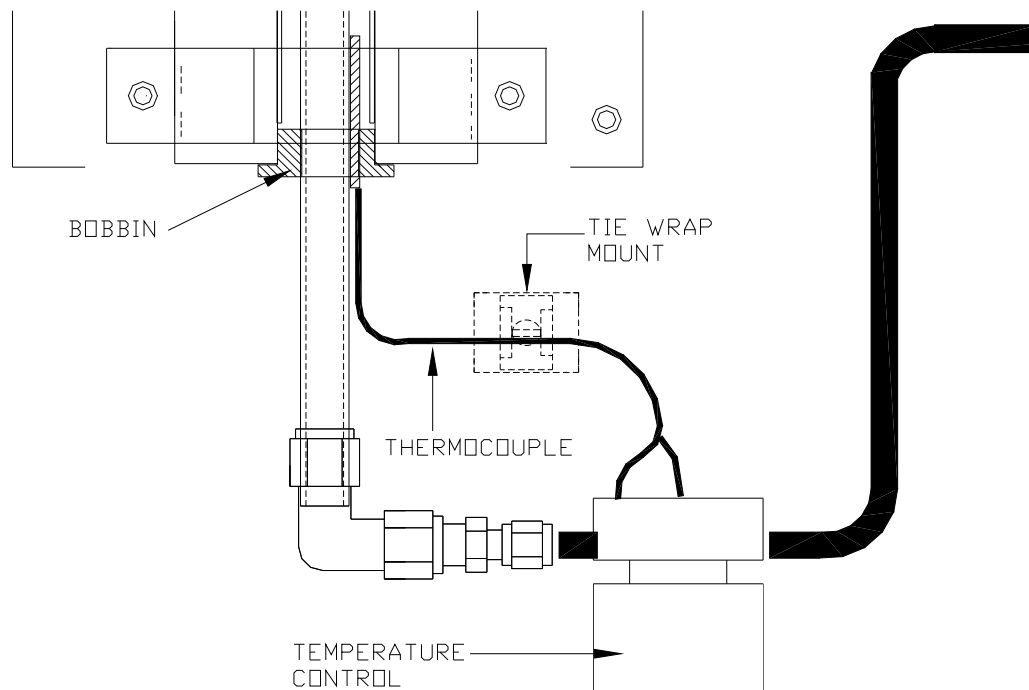

Figure 2-7. Tie-Wrap Hold-Down Location
15. Clean the chassis where the Tie-Wrap Hold-Down will be placed (alcohol is recommended), and place the Tie-Wrap Hold-Down as shown in the Figure 2-7.